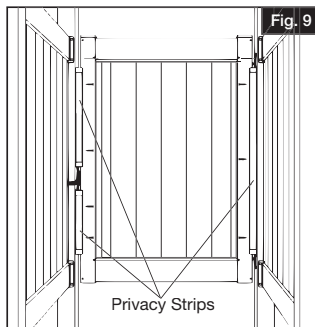

Fig. 9
- Place privacy strips on inside of posts so that they are flush with the door when the door is closed. (Fig. 9). Secure privacy strips to posts using supplied screws.